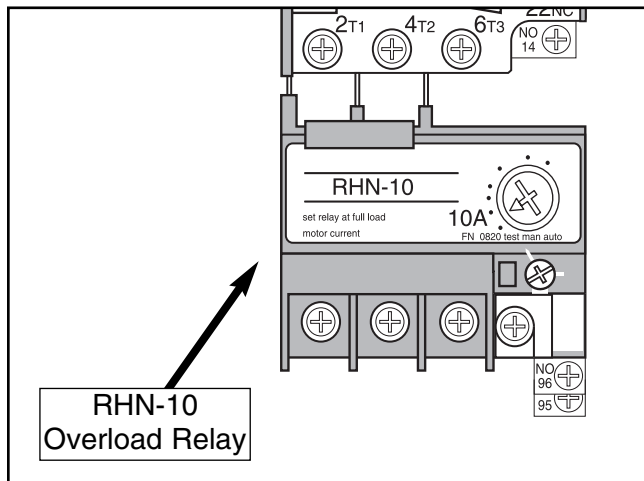

Figure 7. Overload relay.
3. Remove the RHN-18 overload relay and replace it with a RHN-10 (8.5-12.5A) type, set to 10A (Figure 7).